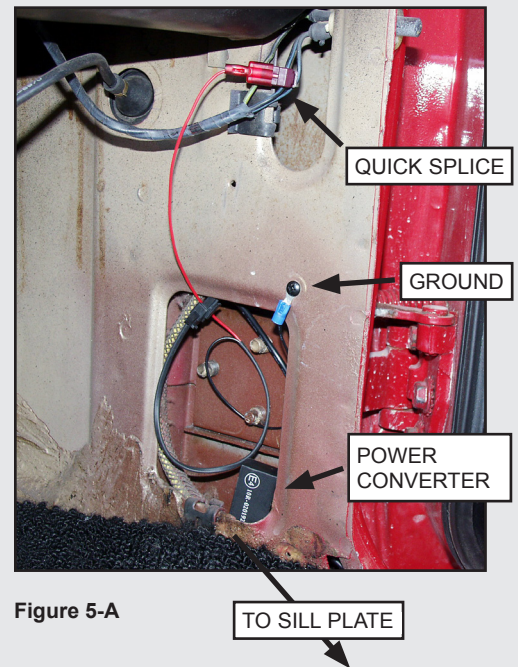

Figure 5-A
STEP 5: Finalize Installation (Figure 5-A)